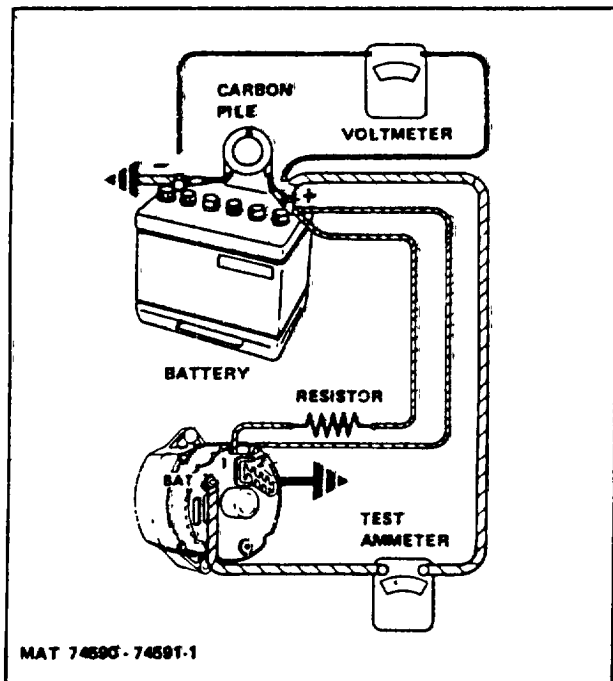

Figure 45. Connections for Bench Check of Alternator (Negative ground alternator shown)
- a. Make connections as shown in Figure 45, except leave the carbon pile disconnected. **IMPORTANT:** Ground polarity of battery and alternator must be the same. Use a fully charged battery, and a 10 ohm resistor rated at 6 watts or more between the alternator No. 1 terminal and the battery.